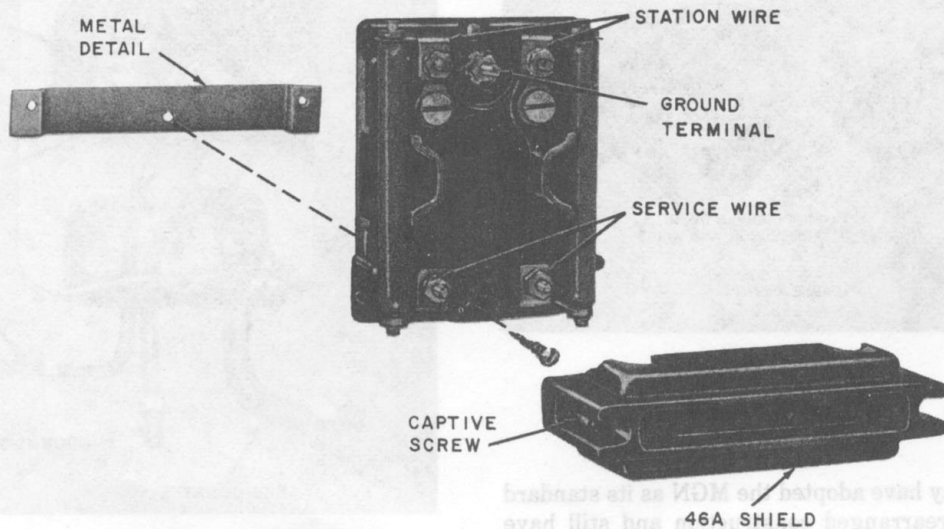
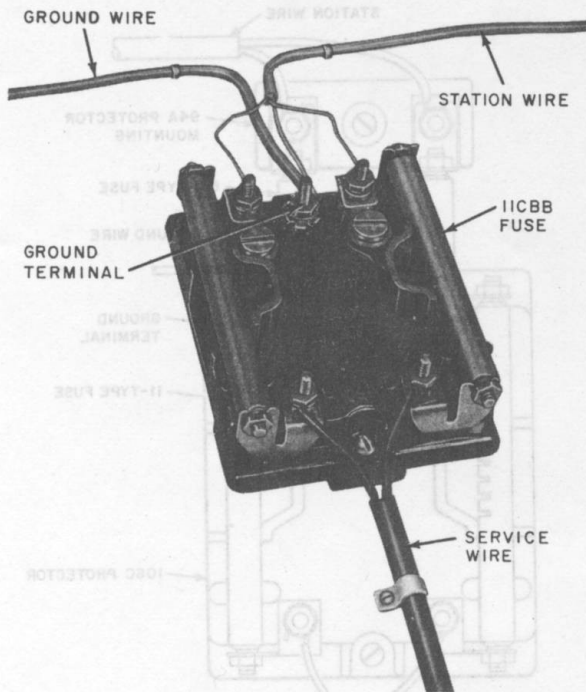

Fig. 15—Installation of 46A Shield
Fig. 16—106C Protector
3.07 The 46A shield (Fig. 15) is used with the 106C protector (Fig. 16) when mounted in commercial boxes. When the fuses blow, the shield prevents hot gases from short-circuiting or grounding the terminals of the protector. This shield is made of insulating material containing two captive screws and a metal mounting strap.